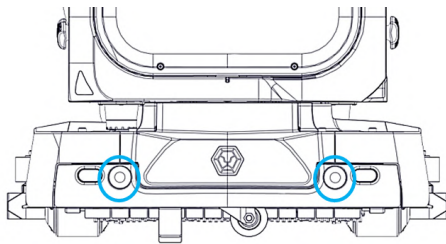
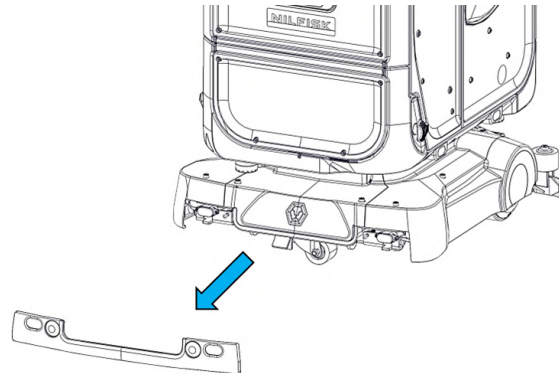

FIGURE 2-3
FIGURE 2-4
1. Press the 2 buttons **(Fig. 2-3)** fully to remove the Lower Front Cover **(27)** **(Fig. 2-4)**.